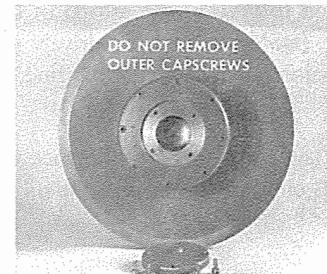

Figure 22
4. Remove **only** the small outboard end cap (containing the oil fill plug). See Figure 22. Drain the oil from the reservoir into a cup, discard oil and wipe reservoir dry with a rag. **Note:** **Do not** remove outer circle of cap screws on end plate.